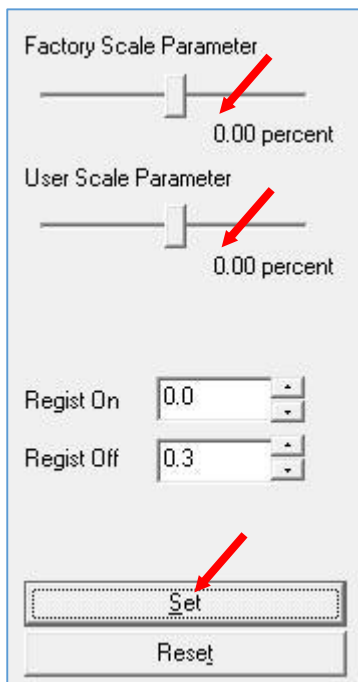

Figure 5-237
- 1) Set the values of [Factory Scale Parameter] and [User Scale Parameter] to "0.00" and then click the [Set] button. (Refer to Figure 5-237)